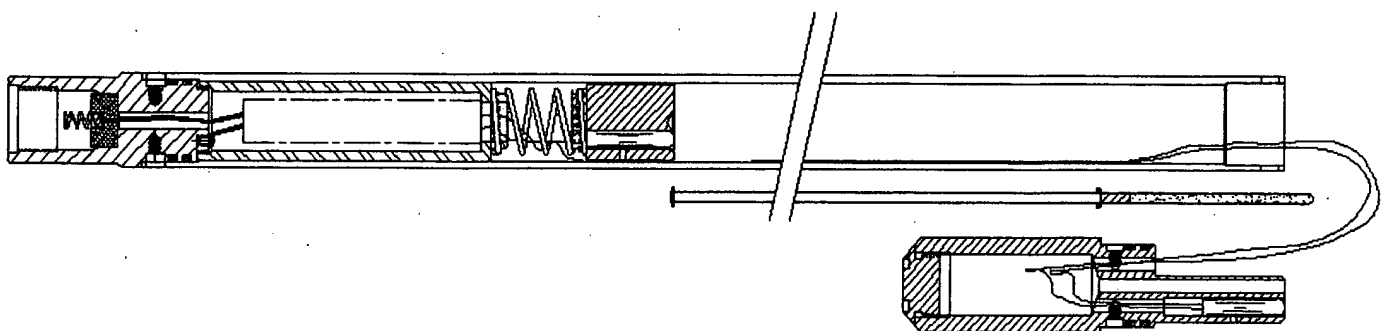

Fig. 3 Remove Bottom Nose and position it alongside Housing as shown.
- 3.5 Remove the ST Bottom Nose from the Tool Housing and the Load Rod and position it to the side as shown in Fig. 3. **AVOID EXCESSIVE FORCE ON WIRES.** Use of Channel-Lok pliers may be helpful to remove the Bottom Nose from the Tool Housing.
- 4.2 Remove Bottom Nose and position it to the side as shown in **Fig. 3**.